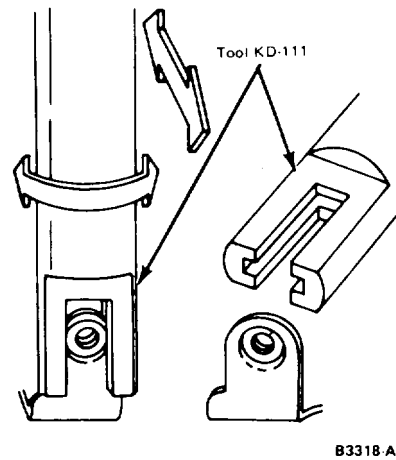

FIG. 9. Using Alignment Tool
2. Using the tool shown (Figure 9) and exerting very light pressure, align the breaker point bracket. Do not bend the breaker arm.